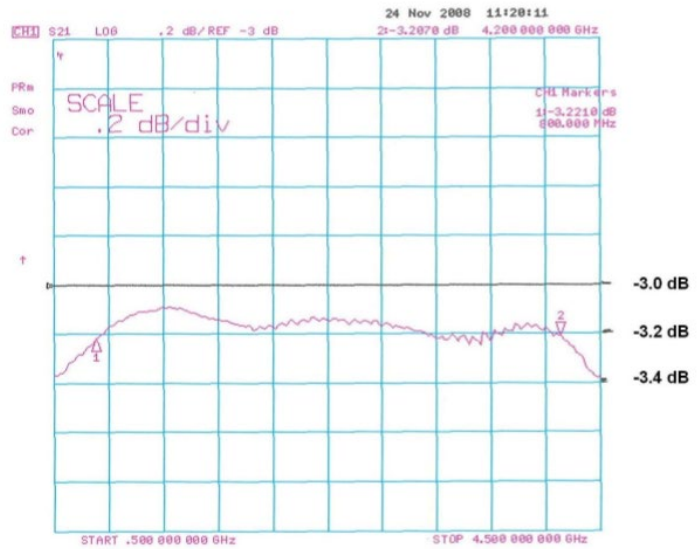

Figure 4-4. Typical Four-Way Splitter Insertion Loss
- A typical Two-Way Splitter Insertion Loss is shown in Figure 4-4. The unused ports must be terminated when checking the insertion loss.